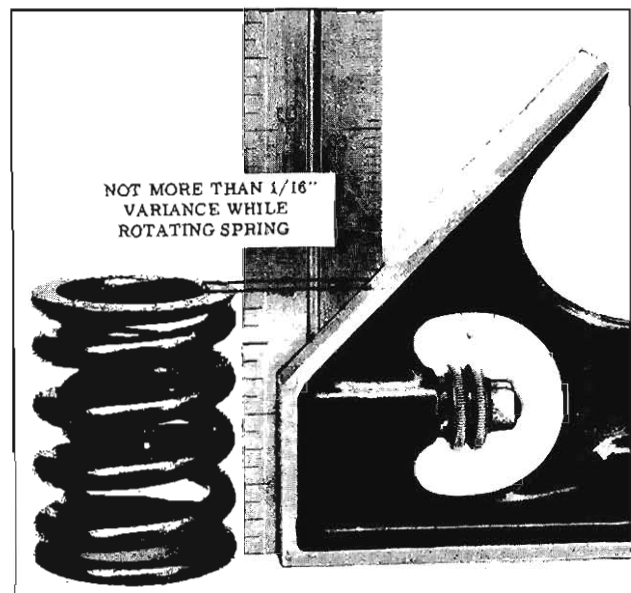

Fig. 3-412 Valve Spring Checking
- a. Occasionally this noise can be eliminated by rotating the valve spring and valve. Crank engine until noisy valve is off its seat. Rotate spring. This will also rotate valve. Repeat until valve becomes quiet. If correction is obtained, check for an off square valve spring. If spring is off square more than $1/16''$ in free position, replace spring. (Fig. 3-412)